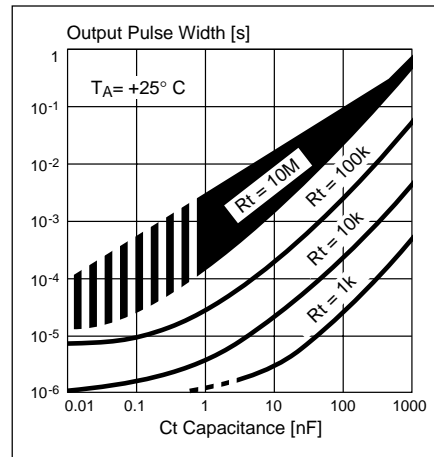

Figure 21. Typical t_{on} vs. C_T/R_T . Output pulse width vs. capacitance/resistance
- Figure 21 shows the relationship between C_T , R_T , and t_{on} . Care must be taken to keep the t_{on} time short, otherwise the current in the winding will rise to a value many times the rated current, causing an overheated IC or motor.